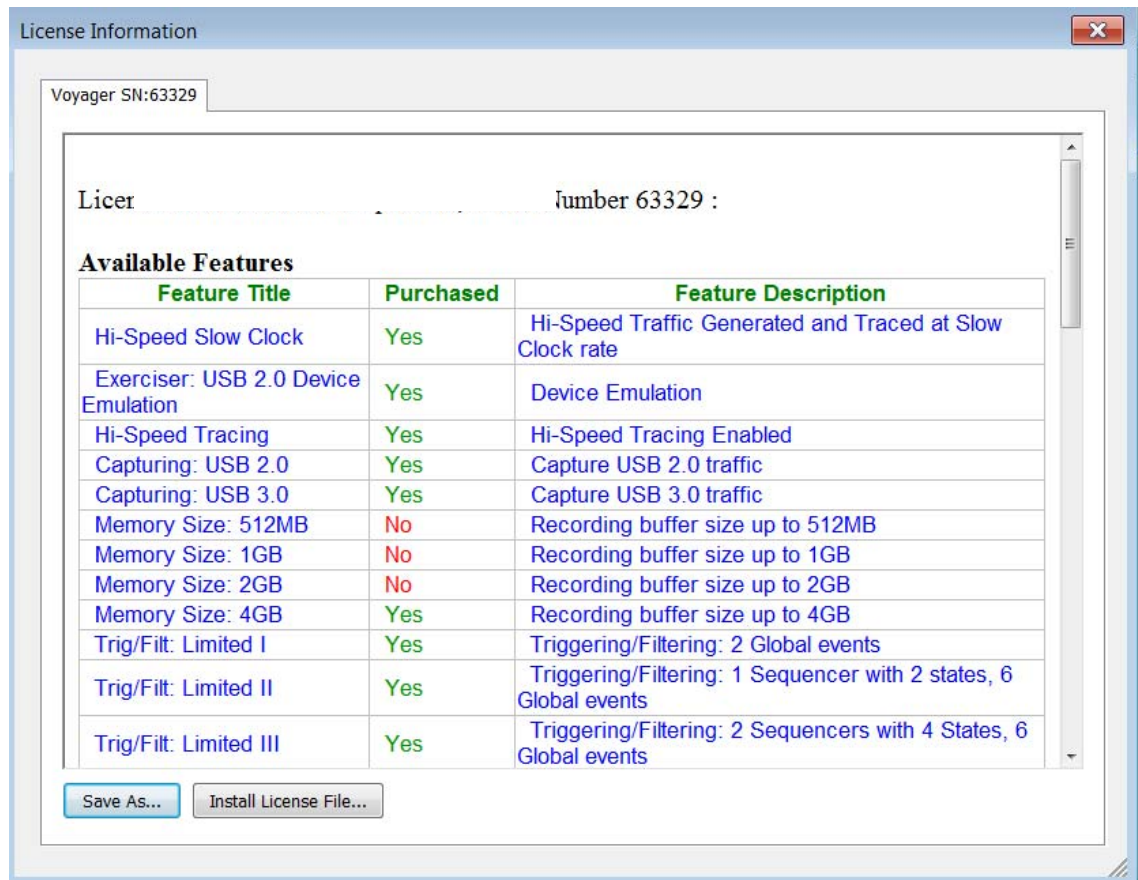

Figure 13.7: License Information Dialog
1. From the Help menu, select **Display License Information** to display the License Information Dialog (see Figure 13.7 on page 408).